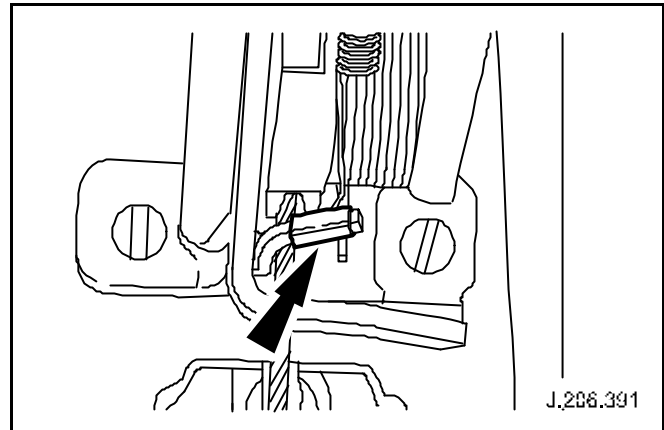

Fig. 2
- 6 Using suitable pliers, install new clip to the stop making sure the curved edge is facing upwards. (See Fig. 2)